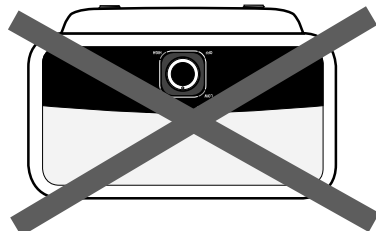

Figure 7 - DO NOT INSTALL THE WATER HEATER UPSIDE DOWN
- The appliance must be mounted horizontally, with water inlets and outlets at the bottom. See Figures 7 - 8.
- Do not install the appliance with water inlets and outlets at the top. See Figure 7.